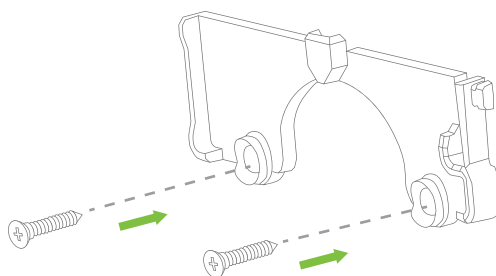
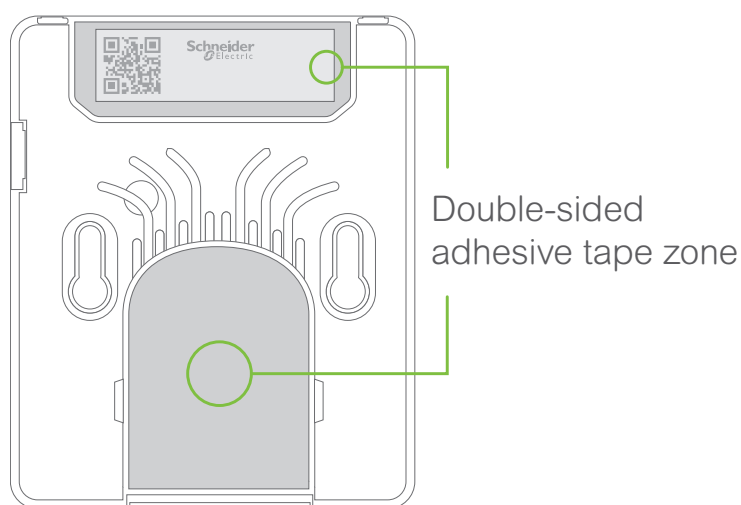
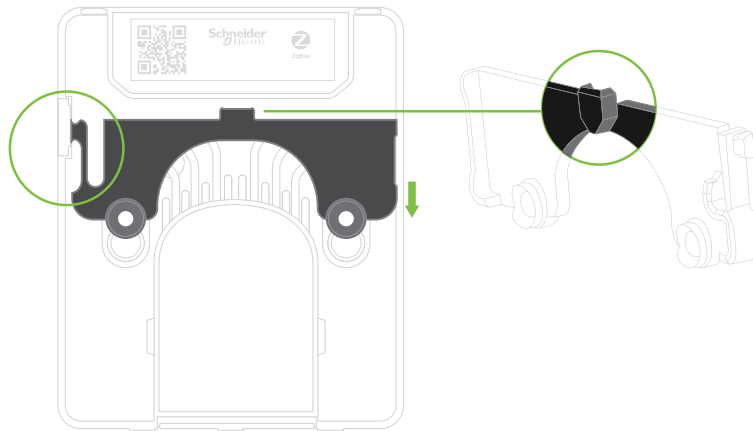

Figure 1
Figure 2
Figure 3
The wireless CO₂ + TRH sensor can be secured directly on a wall or flat surface using double-sided adhesive tape (Figure 2), or by securing the plastic bracket to the wall (Figure 1) and mounting the sensor (Figure 3). Using the screws is the recommended method.
1. Using the two screws provided, secure the wall bracket to the wall (Figure 1).
2. Once bracket is secured, slide sensor on bracket using downward motion (Figure 3).
3. Ensure click sound is heard to verify sensor is secured to bracket and ensure side tab of bracket is aligned with opening on side of sensor (Figure 3).
To remove the sensor from the wall bracket, press on the side tab as circled in Figure 3 and slide the sensor up and then out.